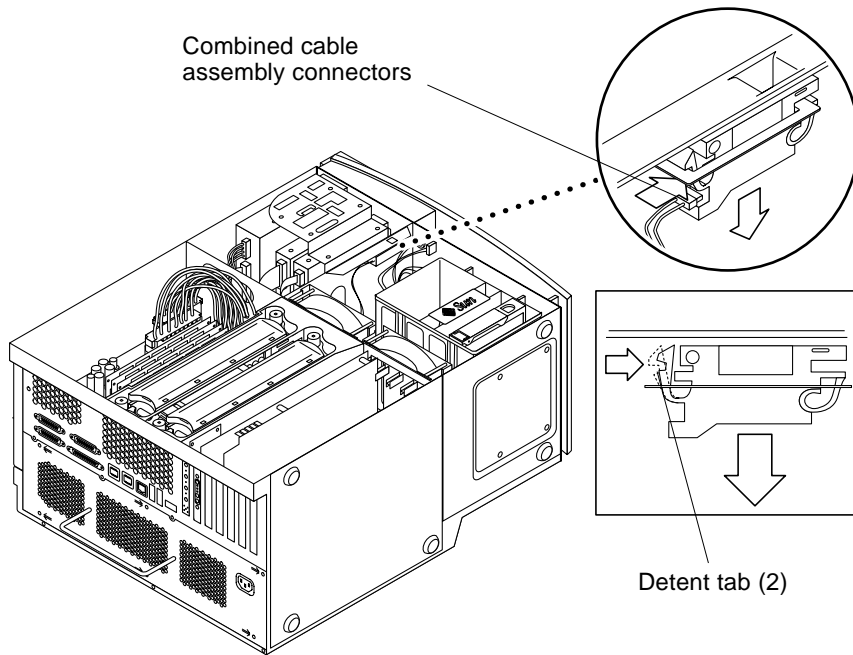

FIGURE 6-12 Removing and Replacing the Interlock Switch Assembly
2. Press the detent tabs at either side of the interlock switch assembly while pulling the switch from the chassis switch housing (FIGURE 6-12).
1. **Connect the combined cable assembly connectors to the interlock switch terminators (FIGURE 6-12).**